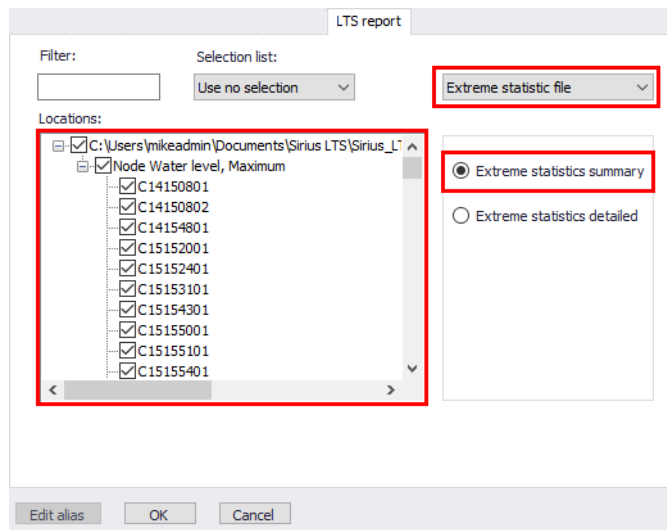

Figure 20.65 LTS extreme event statistics summary report configuration
- Choose to generate a report with the ‘Extreme statistics file’ from the dropdown menu on the upper right side of the page (Figure 20.65).
- Select the items and locations which shall be included in the report (Figure 20.65). Note that relevant items are offered on the Locations panel only if the appropriate LTS result file has been activated for the result document creation.